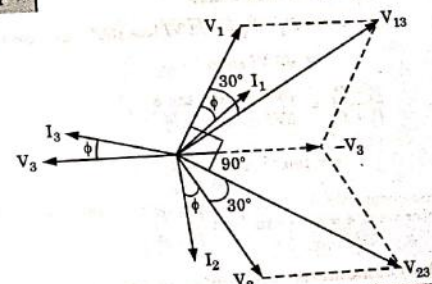

Fig. 1.23.1. Phasor diagram for balanced star connected load.
- Fig. 1.23.1 shows the phasor diagram for a balanced star connected load.